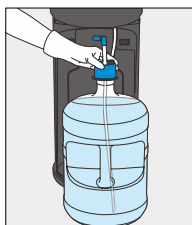

Figure 6
7. Slide the bottle adaptor over the neck of the bottle and push down to secure (Figure 6).